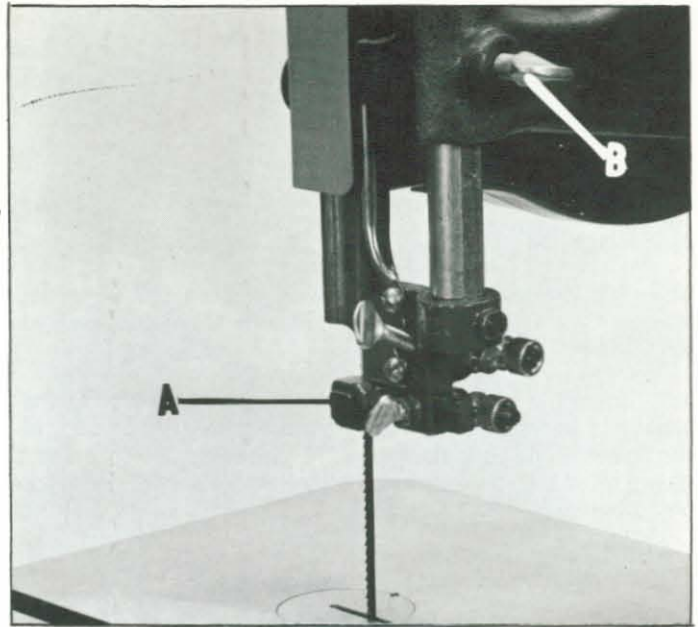

Fig. 18
The upper blade guide assembly (A) Fig. 18, should always be set as close as possible to the top surface of the material being cut by loosening thumb screw (B) and moving the guide assembly (A) to the desired position.